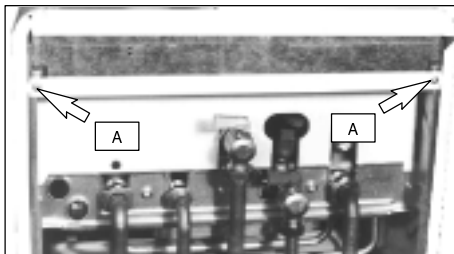

fig. 6.2
- 2 Loosen the two screws "A" (fig. 6.2) and lift the panels freeing them from the side hooks.
- 3 Slacken off screws "A" (fig. 6.2) and remove the lower protection plate.